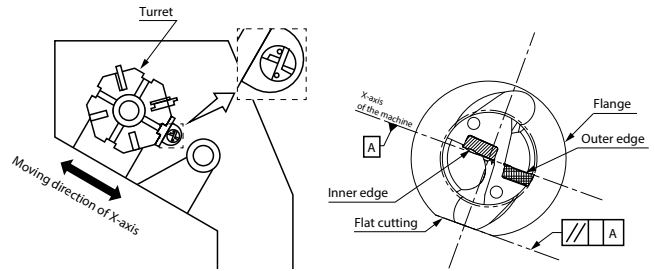
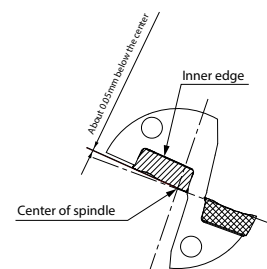

Fig. 1 Installed into the lathe
Fig. 5 Front view of the drill
1. Adjust the scale at the flange periphery of the sleeve to the reference mark (DRV) or the center of coolant plug (DRZ). (Fig. 1)
2. It is recommended to set the outer insert as shown in Fig. 1 with the outer insert facing the operator. (Fig. 1)
When installing inner insert as shown in Fig. 1, it will be set around 0.05mm below the center of spindle. (Fig. 5)